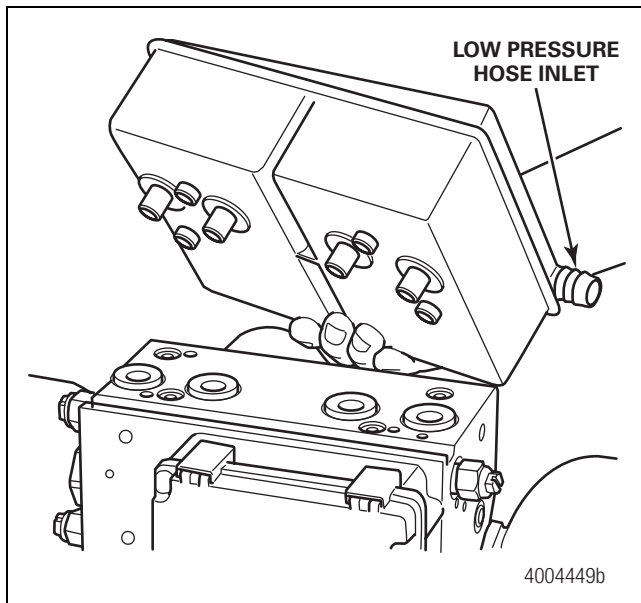

Figure 8
3. Position the new reservoir provided in the kit on the HCU and verify the orientation. The mounting screw holes must line up and the inlet port for the low pressure hose must face the front of the HCU. Figure 8.
3. Connect the low pressure hose from the master cylinder reservoir to the HCU reservoir and secure the connection with a hose clamp. Figure 8.